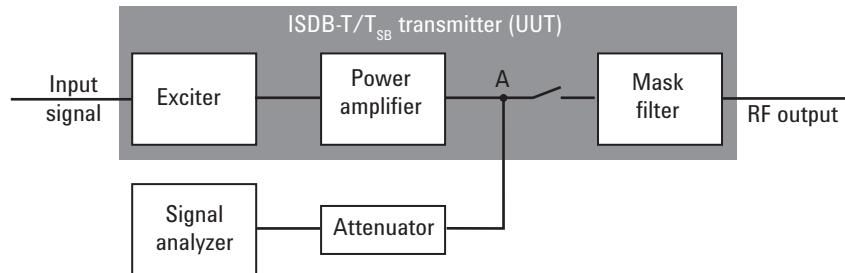

Figure 32. Diagram for spectrum mask measurement on ISDB-T/T_{SB} transmitter with mask filter
Method 1: Figure 32 shows a diagram of the spectrum mask measurement when the ISDB-T/T_{SB} transmitter has an output filter.
2. Measure the signal transmitted at point A as shown in Figure 32.
3. Apply amplitude correction on the spectrum value measured in (2) using the filter's response from (1).